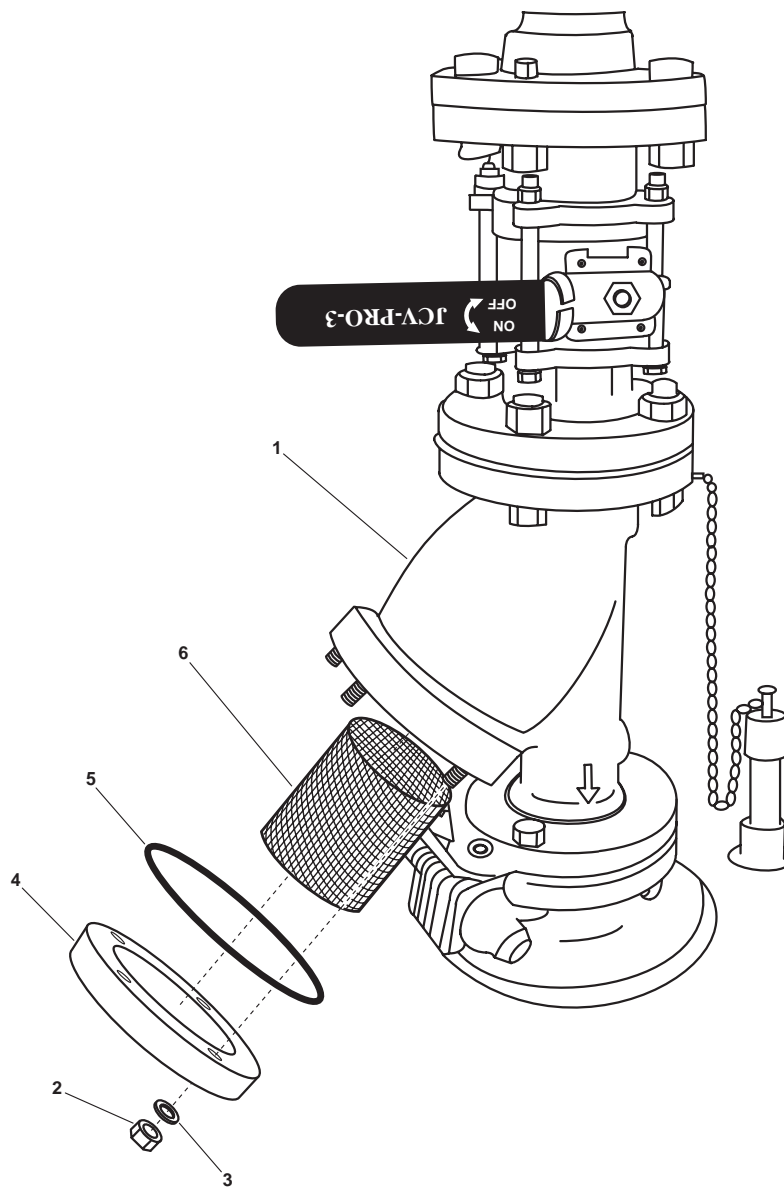

Figure 1. Engine Room Water Washdown System Strainer
1. Place a suitable drain pan underneath the strainer assembly (figure 1, item 1).
2. Remove the six nuts (figure 1, item 2), and six flat washers (figure 1, item 3) from the cover (figure 1, item 4) of the strainer assembly (figure 1, item 1). Remove the cover.
3. Remove and discard the gasket (figure 1, item 5).
4. Slide out the basket (figure 1, item 6), and clean it with soapy water and a wire brush.
1. Install the basket (figure 1, item 6) into the strainer assembly (figure 1, item 1).
2. Install a new gasket (figure 1, item 5) and the cover (figure 1, item 4) on the strainer assembly (figure 1, item 1) and secure the cover with the six nuts (figure 1, item 2) and six flat washers (figure 1, item 3).